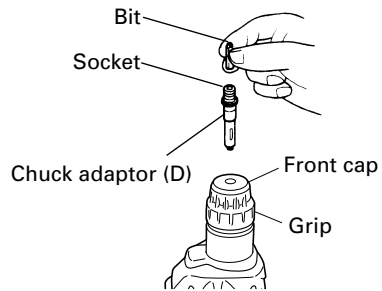

Fig. 18
6. When driving machine screws (Fig. 18)
- Do not attempt to use the rotary hammer in the rotation and striking function with chuck adaptor (D) and bit attached.
7. When driving wood screws (Fig. 18)